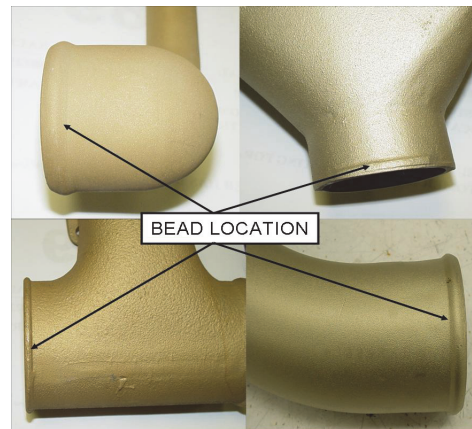

Figure 6-89. Induction Tube Bead Location
5. Inspect the induction tube and hose connections to verify proper installation. Induction tubes incorporate a "bead" (Figure 6-89) which provides an anchor point for the induction tube clamps and enhances the seal between the induction tube and hose. Remove, inspect and install induction system according to instructions in the applicable Maintenance and Overhaul (or Overhaul) Manual if induction tubes,
- a. Visually inspect the induction system clamps for proper fit and positioning. Clamps should be positioned squarely over the joint between the induction tubes and hose (Figure 6-89), inboard of the induction tube bead; no part of the end of the induction tube should be visible with the hose and clamp properly installed. Loosen the clamps, reposition, and torque the clamps 25-35 in. lbs. If the clamp will not tighten or remain torqued, the clamp is unserviceable - replace the clamp.